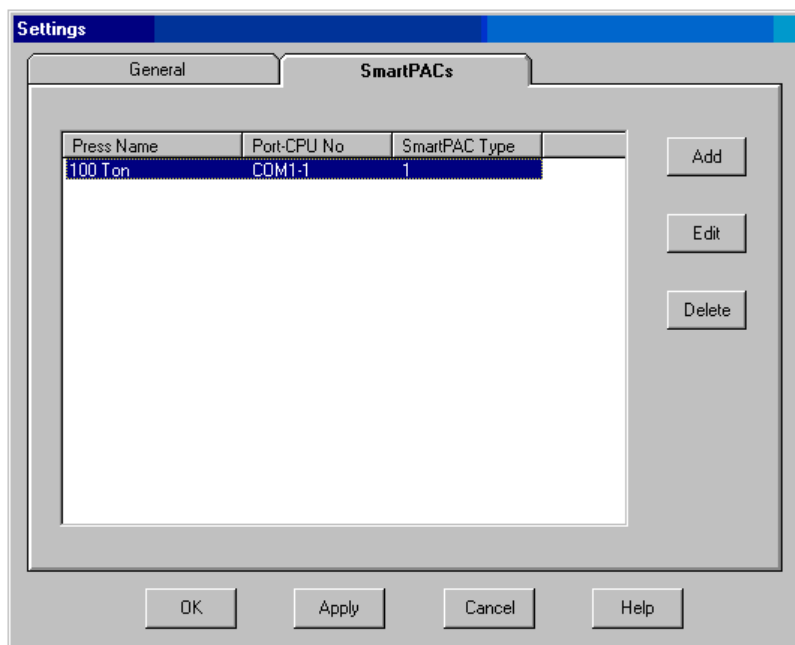

Figure 5. SBR Settings Screen, SmartPACs Tab
9. Click on the **Add** button (see Figure 5, next page). The Add SmartPAC screen displays (see Figure 4), on which you must enter identification information about the SmartPAC you are backing up or restoring to. Information must be entered in all fields.
14. Click on **OK**. You are returned to the SmartPACs tab with the information you just entered displayed on a line beneath the *Press Name*, *Port-CPU No*, and *SmartPAC Type* captions. See Figure 5 for an example.